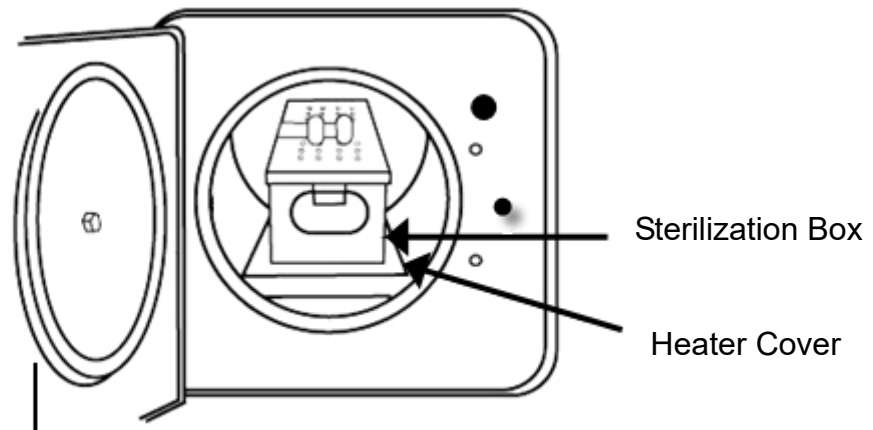

Figure 5
D. Install the Sterilization Box as Figure 5. (standard accessory)